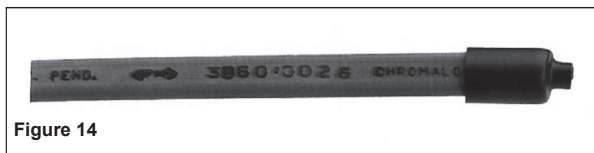

Figure 14
2. Slide the heat shrink cap over the end of the cable (Figure 14).